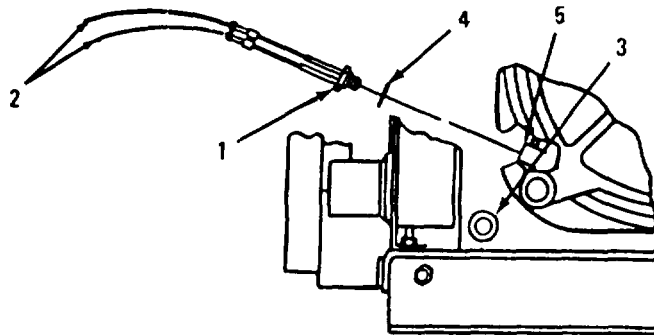

Figure 4-17. Crankcase Oil Heater
a. Inspection/Test. (Refer to Figure 4-17)
- (1) Inspect the immersion heater (1) for damage. Replace if damaged.
- (2) With the electrical source disconnected. Test the immersion heater (1) for continuity. Replace if damaged.